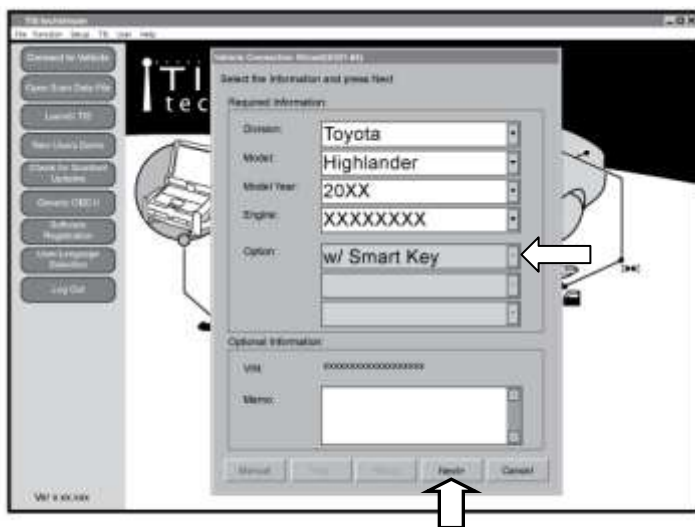

Fig. 5-10
(Fig. 5-10)
(Fig.5-10)
- (s) Click “Next>.” (Fig. 5-10)